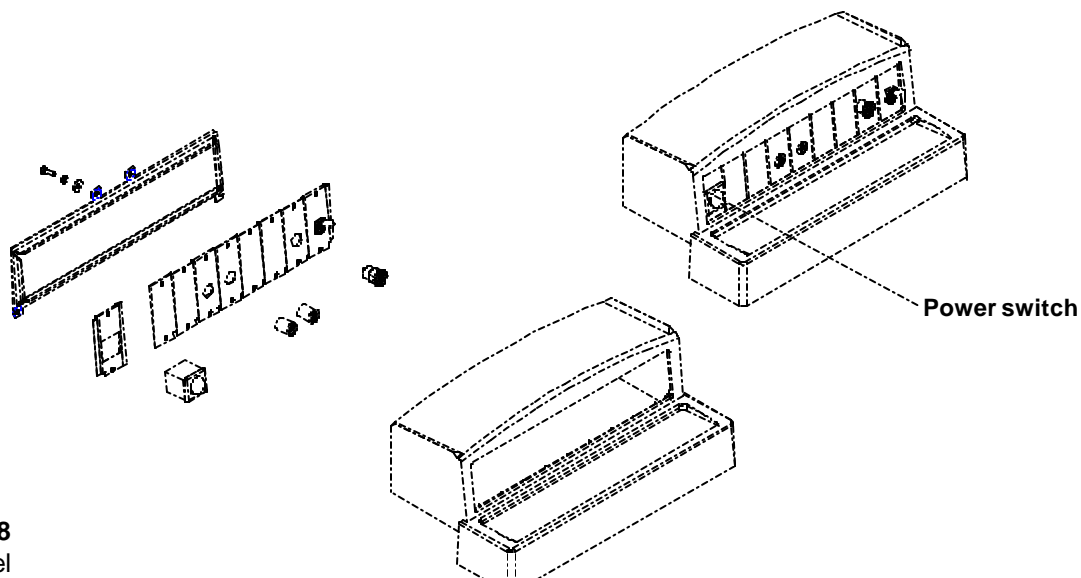

Figure 5-28
5.112 Probe panel (Figure 5-28 and 6-1)